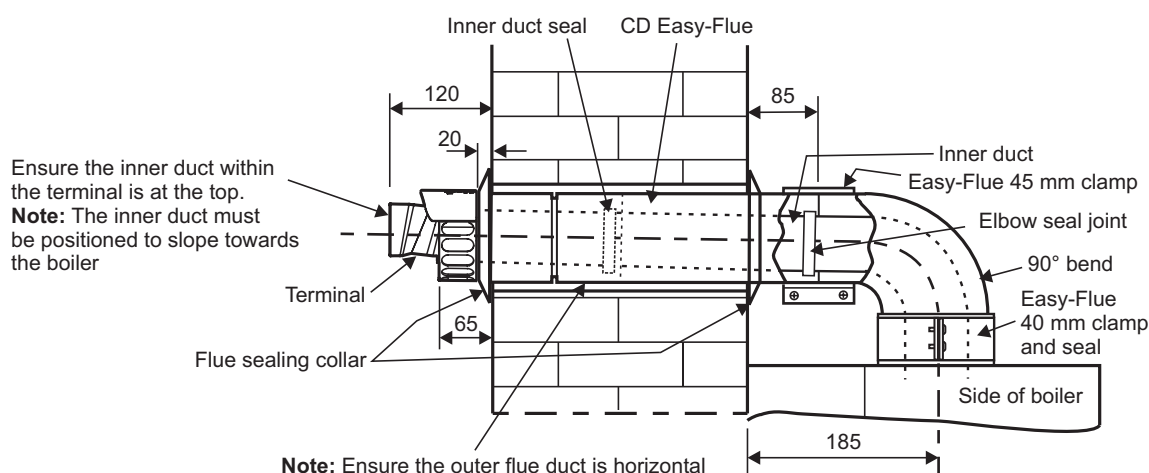

Fig. 4.9 - Rear flue
- Note:** Check the flue terminal protrudes 120 mm out of the wall and the inner duct of the terminal is positioned correctly (see Fig. 4.9).